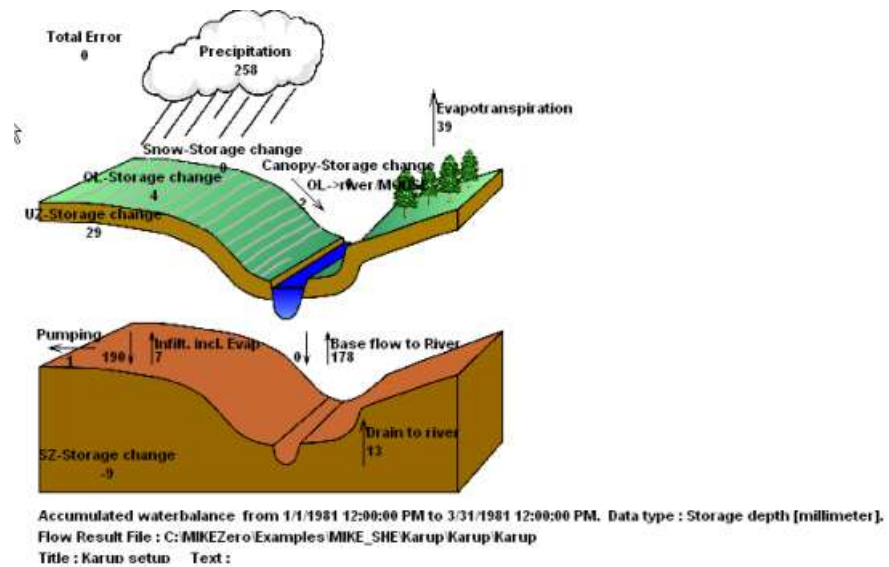

Figure 6.1 Graphical water balance output example
A water balance can be generated at a variety of spatial and temporal scales and in a number of different formats, including dfs0 time series files, dfs2 grid series files, and ASCII text output suitable for importing to Microsoft Excel. You can also automatically create a picture that visualizes the interrelationships between the various water balance components (see Figure 6.1).
- A graphical cartoon (“Chart” type) of the total water balance (such as Figure 6.1),